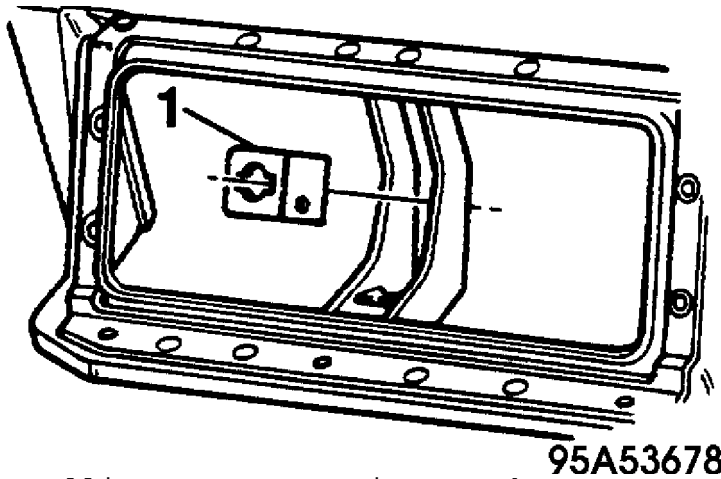

Fig. 4: Installing Servo Mounting Bracket
- Install bracket -1-, Part No. 200 271 200 onto housing in same location as old mount. See Fig. 4.